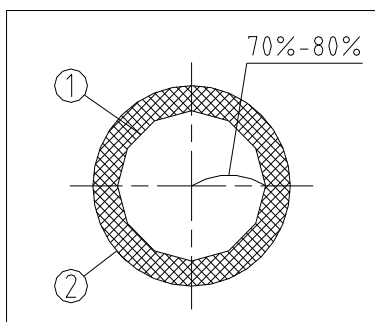

Fig.29
Adjust the aperture diaphragm adjusting ring (3) to control the size of diaphragm. Take off the eyepiece if necessary, observe from the eyepiece tube and adjust the aperture diaphragm adjusting ring (3) until see the image as shown in Fig. 29, to adjust the proportion (see Fig. 29&30, (1) in Fig. 29 is the image of aperture diaphragm, and (2) is the edge of objective).
The changing direction of the aperture diaphragm is as same as the field diaphragm, adjust it by the aperture diaphragm adjusting pole (1). Adjust the two aperture diaphragm centering screws (2) on the both sides of illuminator with the hexagon spanner, to move the image of aperture diaphragm to the center of the view field. The eyepiece can be taken off when it's necessary to observe from the tube. Adjust the aperture diaphragm adjusting pole (1) until see the image as shown in Fig. 29, to adjust the proportion (See Fig. 29&31).